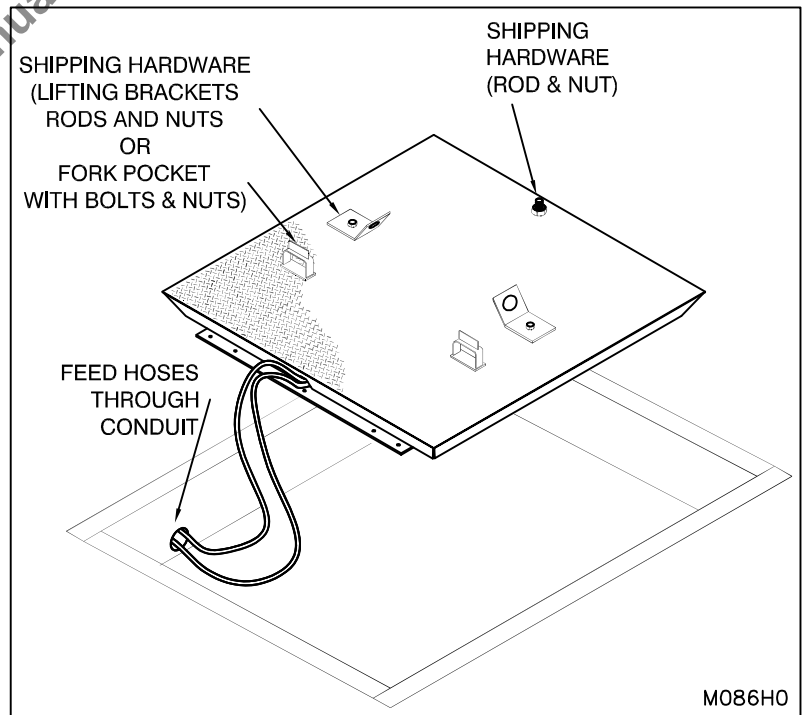

Figure 3: Moving the Dock Lift
Hoist the dock lift into the pit. At the same time, feed the hydraulic hose through the conduit from inside the pit toward the power unit. (See "Figure 3: Moving the Dock Lift" on page 4)
6. Remove all shipping bolts and hardware. (See "Figure 3: Moving the Dock Lift" on page 4).